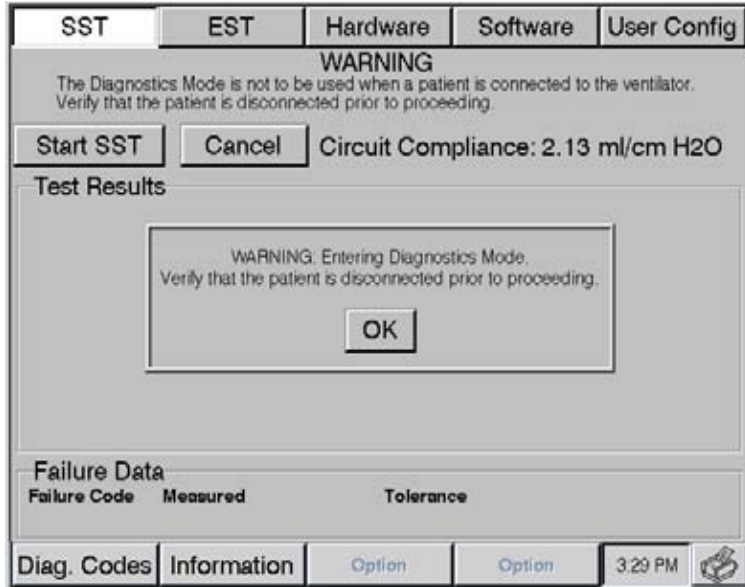

Figure 11-1: Entering Diagnostic Mode
To enter Diagnostic Mode, hold down the ALARM RESET and 100% O2 keys for approximately 5 seconds while you turn on the ventilator. A message appears on the ventilator prompting you to confirm that the patient is disconnected before entering Diagnostic Mode (Figure 11-1). Press OK to enter Diagnostic Mode.
2. Press the SST button (Figure 11-1) on the diagnostic screen.
3. Press the EST button on the diagnostic screen (Figure 11-1).